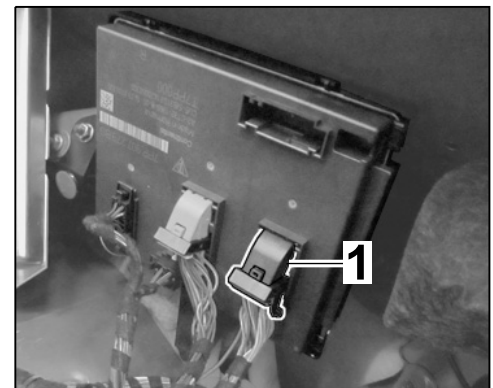

Figure 18
- 2.4.5 Connect electric plug connection ⇒ *Figure 18 -arrow-* to the rear-end electronics control unit.